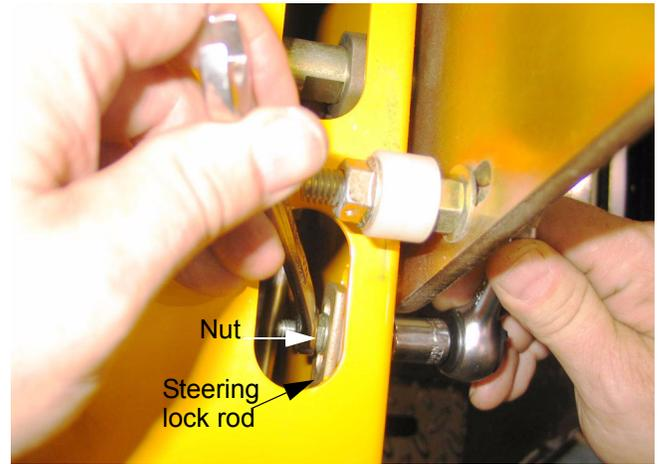

Figure 21.34
21.34. The post is easily loosened for adjustment, or removal using a pair of 1/2" wrenches. See Figure 21.34.